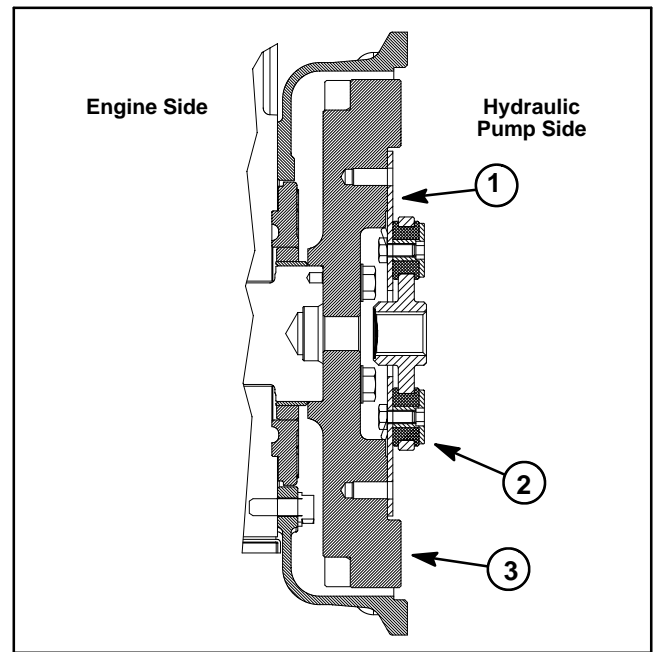

Figure 15
1. Position spring coupler to engine flywheel and align mounting holes. Make sure that coupling hub is away from engine flywheel (Fig. 15).
2. Apply Loctite #242 (or equivalent) to threads of cap screws (item 6). Secure coupler to flywheel with six (6) cap screws and hardened washers. Torque cap screws in a crossing pattern from **29 to 33 ft-lb (40 to 44 N-m)**.
3. Position flywheel plate to engine. Make sure that boss on plate is orientated down. Secure flywheel plate with cap screws (item 7) and hardened washers using a crossing pattern tightening procedure.